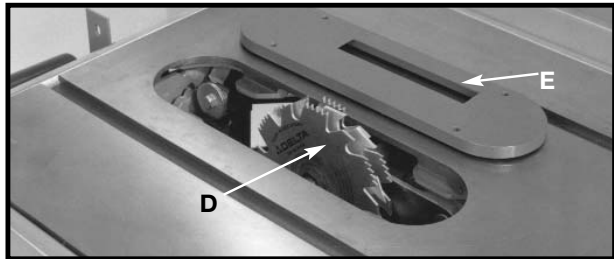

Fig. 51
2. Attach the dado head set (D) Fig. 51, to the saw arbor.
**⚠ CAUTION** THE ACCESSORY DADO HEAD SET TABLE INSERT (E) FIG. 51, MUST BE USED IN PLACE OF THE STANDARD TABLE INSERT.